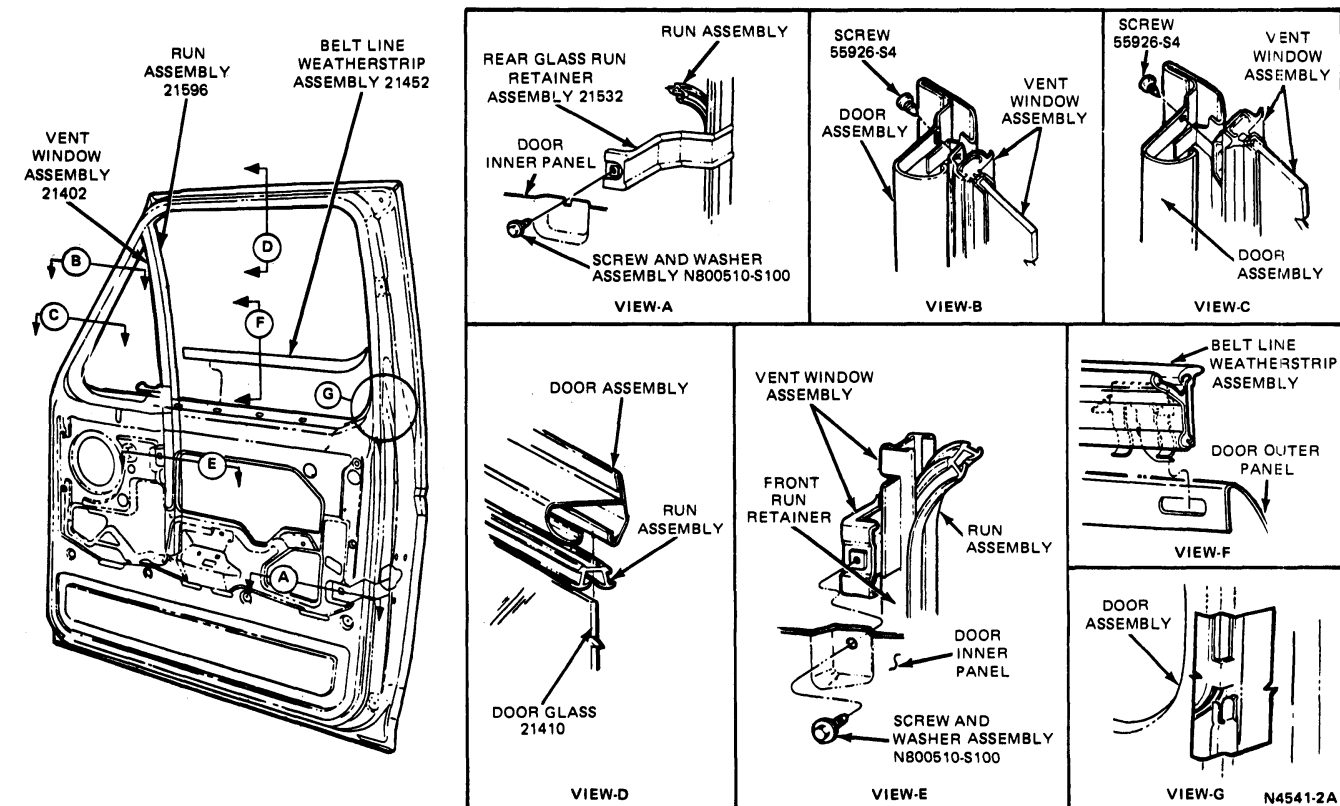

FIG. 4 Door Glass and Vent Window Installation—Bronco and F-100—F-350 Truck
2. Remove the screw from the front division bar (Fig. 4, View E).
3. Remove two vent window assembly attaching screws from the front edge of the door (Fig. 4, Views B and C).
4. Install the two vent window attaching screws at the forward edge of the door (Fig. 4, Views B and C).
6. Install the screw at the front run retainer (Fig. 4, View E), and adjust as outlined in Adjustments.